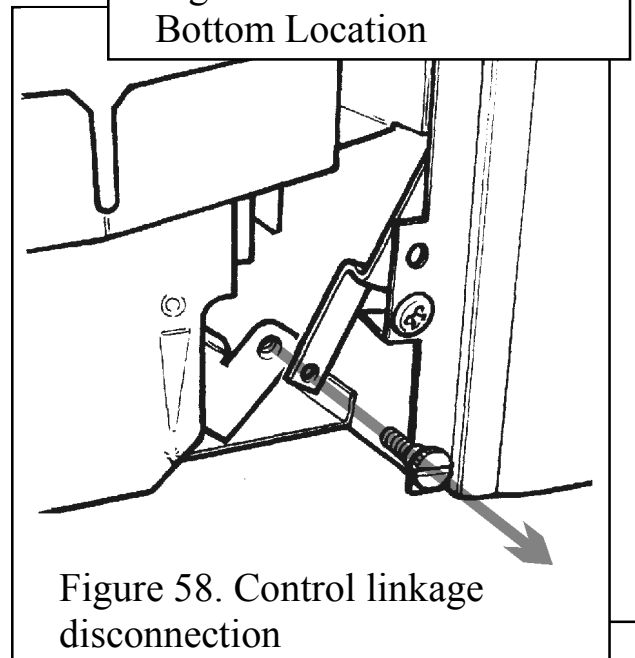

Figure 58. Control linkage disconnection
2. Detach the control-linking bar from the control pivot bracket by removing the knurled screw, which joins the control linking bar to the control pivot unit. See figure 58.
3. Remove the two screws securing the bottom of the front surround to the sides of the convection box. See figure 58.